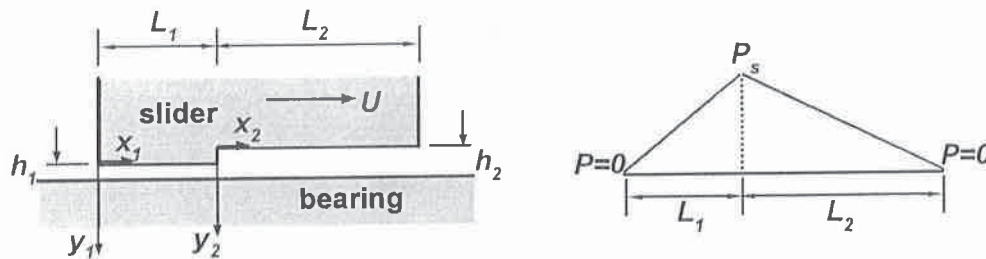

Figure 4: The step bearing and its pressure distribution.
Consider a step bearing moving at velocity  $U$ , as shown in Figure 4. The spacings  $h_1$  and  $h_2$  are much less than  $L_1$  and  $L_2$  and the width of the bearing in the  $z$  direction is assumed to be very large, so that leakage in the  $z$  direction can be neglected. To facilitate the analysis, we attach coordinate systems to the slider with the origins at the beginning of each bearing section and we invert the direction of  $y$ , such that the relative velocity is  $u = 0$  when  $y = 0$ , and  $u = -U$  when  $y = h$  in the respective sections.
- (5) (c) Find an expression for the relative pressure distribution in the step bearing, assuming a zero gauge pressure at the inlet and outlet, as shown in Figure 4.